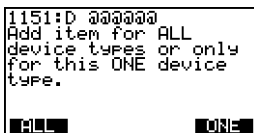

FIGURE 1-36. Adding a Hot Key Option.
4. Press **ALL** (F1) to add the option to the Hot Key menu for all of the HART-compatible devices supported in your Communicator; or, press **ONE** (F4) to add the option to the Hot Key menu for the specific device to which you are currently connected. See **Figure 1-36**.